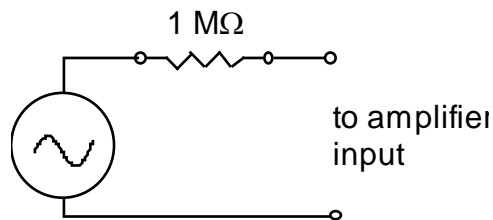

Figure 4-7
* Insert a large-value resistor R_A (typically $1\text{ M}\Omega$) in series with the function generator on the input of the amplifier, as shown in Figure 4-7.